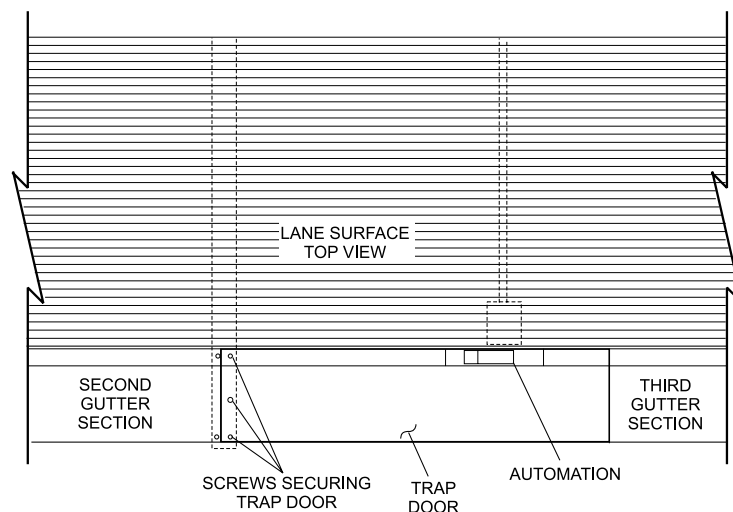

Figure 1
The Pinball Wizard gutter trap door is a removable section of gutter that allows convenient access to the Pinball Wizard Drive Motor. Refer to *Figure 1*. If your center does not have the Pinball Wizard gutter trap door modification, order package number 84-860640-000 (one per lane pair) which includes instructions and hardware for trap door installation. If your center already has the Pinball Wizard gutter trap door modification, proceed to *step 1*.
4. At the joint between the second gutter section and the trap door, remove the screws securing the trap door and remove the trap door. Refer to *Figure 1*.